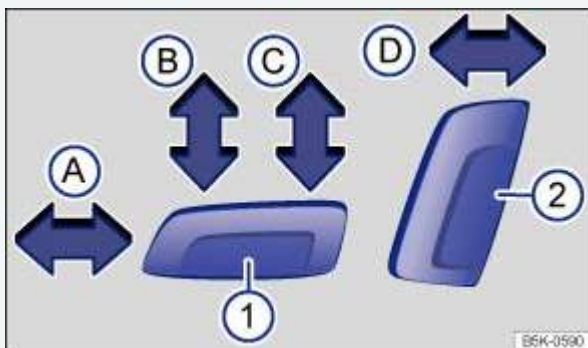

Fig. 42 Driver seat: Electrical controls to move the seat backward or forward, and adjust seat cushion height and backrest angle (if equipped).
| ③             | Adjust the backrest angle.                                                | Lean forward and turn the adjuster wheel forward or backward.If the vehicle has an electrical control for adjusting the backrest angle, see ⇒ Fig. 42②.                                                        |
Press the switch in the direction of the arrow  $\Rightarrow$  Fig. 42: